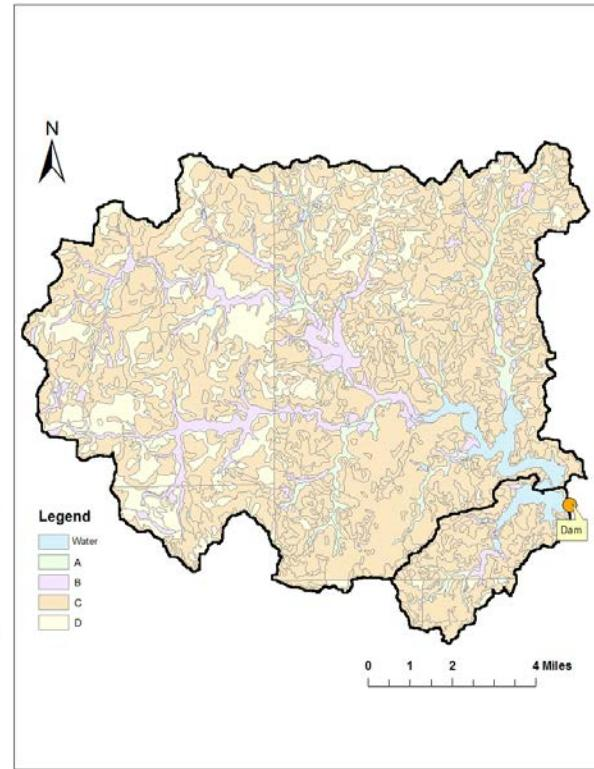

Figure 2 – Soil Types
Additionally, two methods are being employed to determine the curve number (CN) of the soils in each basin. The first method was to obtain soil data from the NRCS Web Soil Survey for a manual calculation of the CN. The data was added to the map and can be seen in Figure 2 (page 3). The calculate geometry function in ArcGIS was used to determine the acreage of each soil type and the attribute table was exported to Excel for CN calculations. The second method to determine the CN is to use a beta-testing version of a curve number calculator tool by ESRI. The tool uses the National Land Cover Database available through the ArcGIS servers.